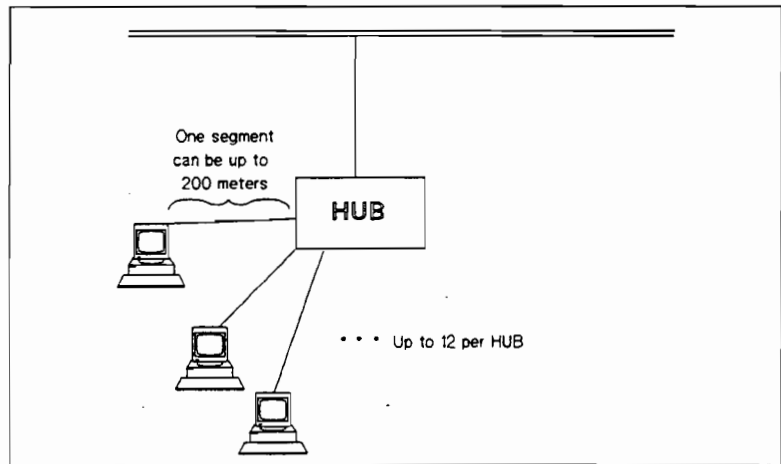

Figure 1-4. 10 BASE - T Configuration
- Figure 1-4. 10 BASE - T Configuration 1-7